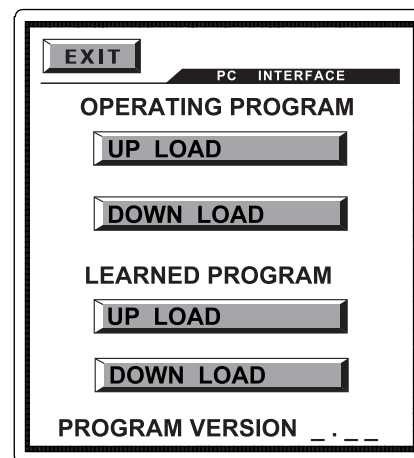

Figure 20
2. Move the cursor on the Touch Screen to **7. PROGRAM LOADING** by using the joystick. Enter this mode by pushing the joystick down. Refer to figure 20.